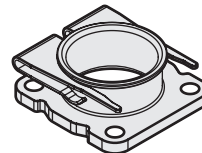

Fig.3
- ① The top surface of the clip should contact the collar. (Fig.3)